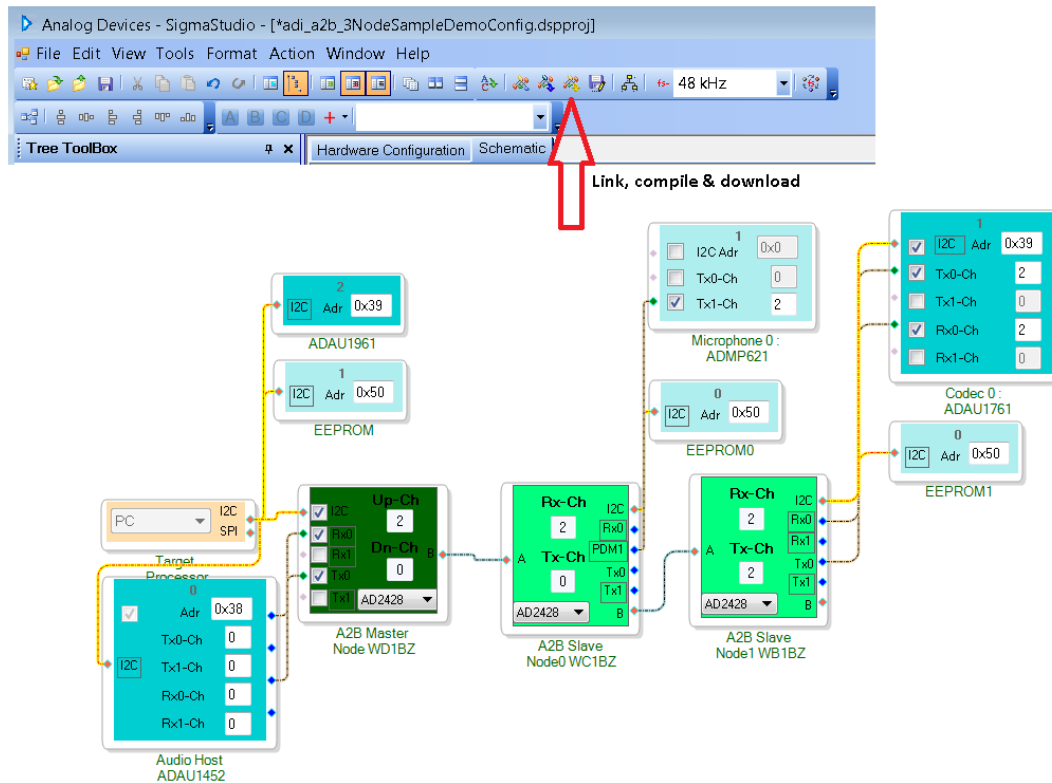

Figure 2. Software Schematic for *adi_a2b_3NodeSampleDemoConfig.dspproj* A²B Example Project
- Open the adi_a2b_3NodeSampleDemo.dspproj example project, which is located in the (default) C:\Analog Devices\ADI_A2B_Software-Rel19.3.0\Schematics\BF\A2BSchematics directory. Click the *Link-Compile-Download* icon, as shown in Figure 2.